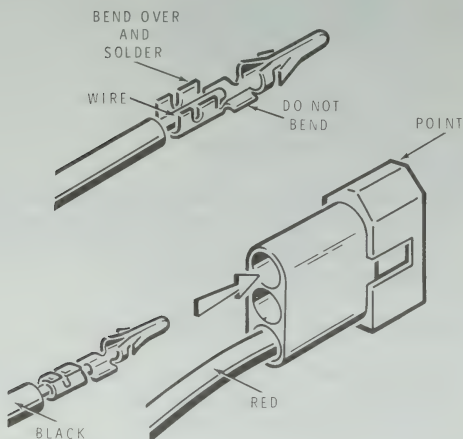

Figure 2-7
- () Refer to Figure 2-7 and solder a male pin to the remaining end of each wire.